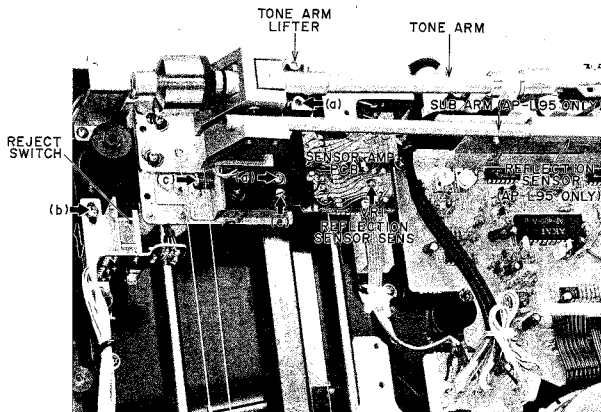

Fig. 20
#### 1. TONE ARM LIFTER HEIGHT ADJUSTMENT (Refer to Fig. 20)
(Refer to Figs. 20, 23, 24)
- 4) If the stylus lowers at a point too far out or in, loosen the screw (b) (Fig. 20), and adjust by changing the position of the REJECT switch. (The stylus' lowering position will change inward if the switch is moved to the front, or outward if the switch is moved to the rear).
##### ADJUSTMENT (Refer to Figs. 20, 22)
- 4) Short Pin ① and Pin ③ of Syscon P.C Board P6.
- 5) Connect Pin ① of P6 to the digital voltmeter's (-) and Pin ② to its (+).
- 7) Adjust the screw (c) (Fig. 20) until the digital voltmeter reads  $-0.25 \pm 0.55V$  DC.
##### (AP-L95/C) (Refer to Figs. 20, 26)
- 8) Adjust VR1 (Fig. 20 Sensor Amp P.C Board) so that the digital voltmeter reads  $-1.0 \pm 0.2V$  DC at this time.
#### 7. REFLECTION SENSOR POSITION ADJUSTMENT (AP-L95/C) (Refer to Fig. 20)
- 5) If the stylus fails to go down in the interval center, loosen the screw (d) (Fig. 20), and adjust by turning CAM (e).